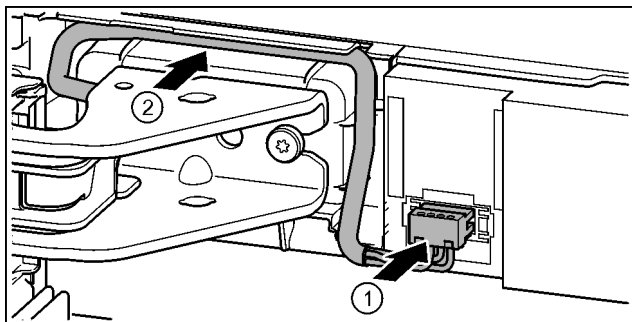

Fig. 37
- Engage the plug above the upper bearing bracket and carefully place the cable strands into the channel. *Fig. 37 (1)*
- Carefully position the grey cable in the guide above the top bearing bracket. *Fig. 37 (2)*